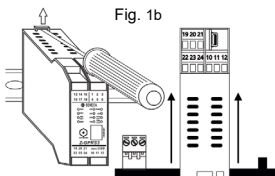

Fig. 1b
- 1) Move the two hooks on the back of the module outward as illustrated in Fig. 1b.
As shown in figure 1b: